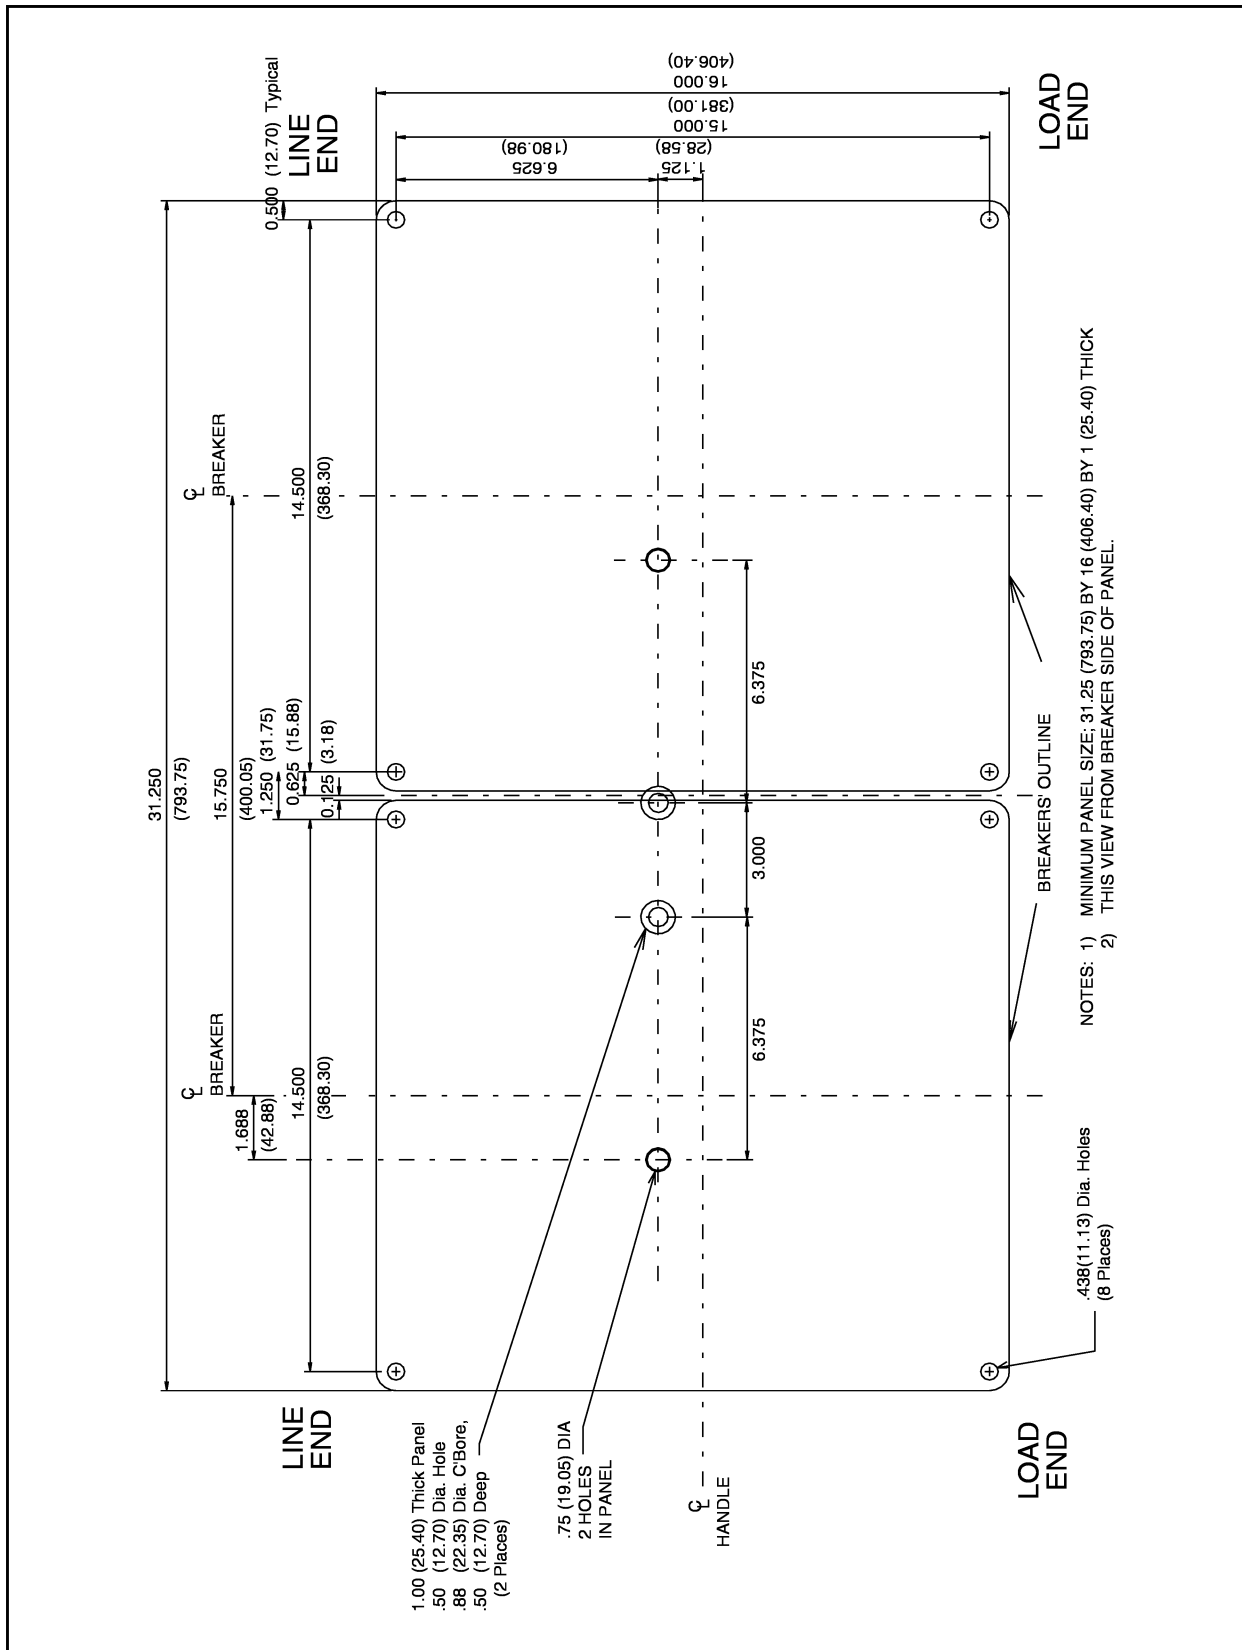

Fig 2-1 R-Frame 3-Pole Circuit Breaker Mounting Panel Hole Sizes and Dimensions, Viewed from Breaker Side of Panel.
- 2-1. Drill the breaker mounting panel using the dimensions which are provided in Fig 2-1 for mounting the breakers and the walking beam interlock assembly. Dimensions are given in inches and (millimeters).